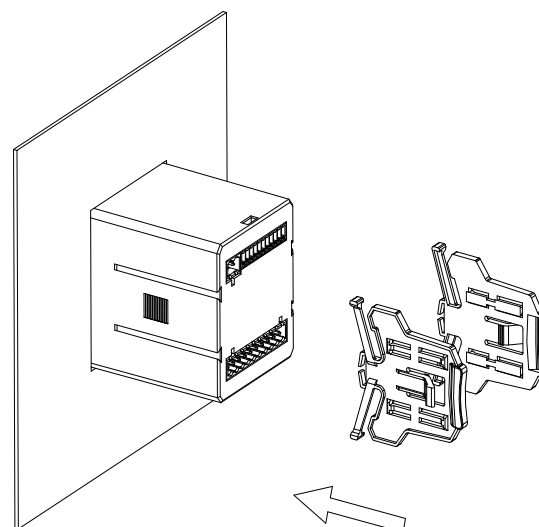

Figure 6
- 4) Insert the instrument clasp to secure the instrument, as shown in figure 6